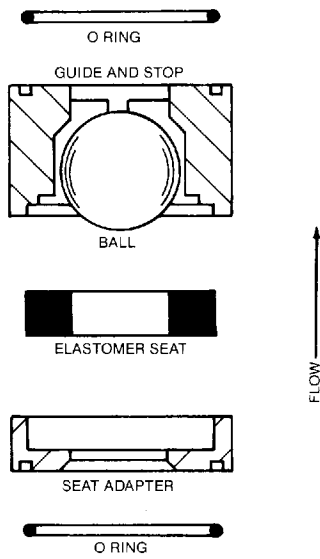

Fig. 34
- a) Slurry Valves (Figure 34), which have an elastomer seat for use with slurries containing abrasive particles.